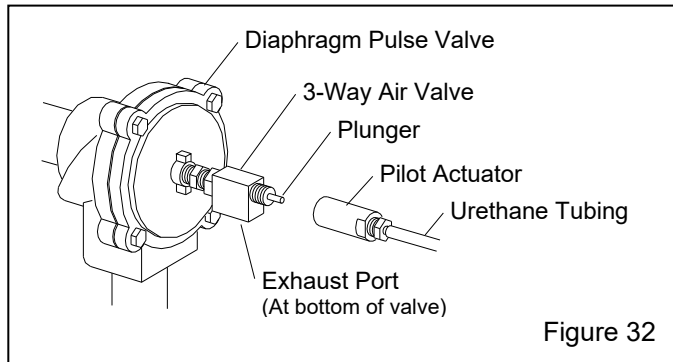

Figure 32
8.17.5 Check the diaphragm pulse valve and actuator assembly. Refer to Figure 32.